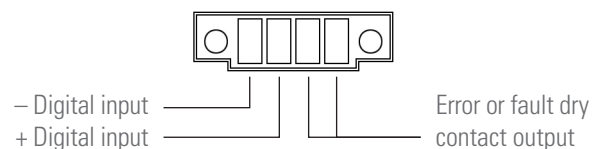

Fig. 20. Digital input and output connector.
- The equipment has a terminal strip of four terminals for a digital input and output [see Fig. 20].